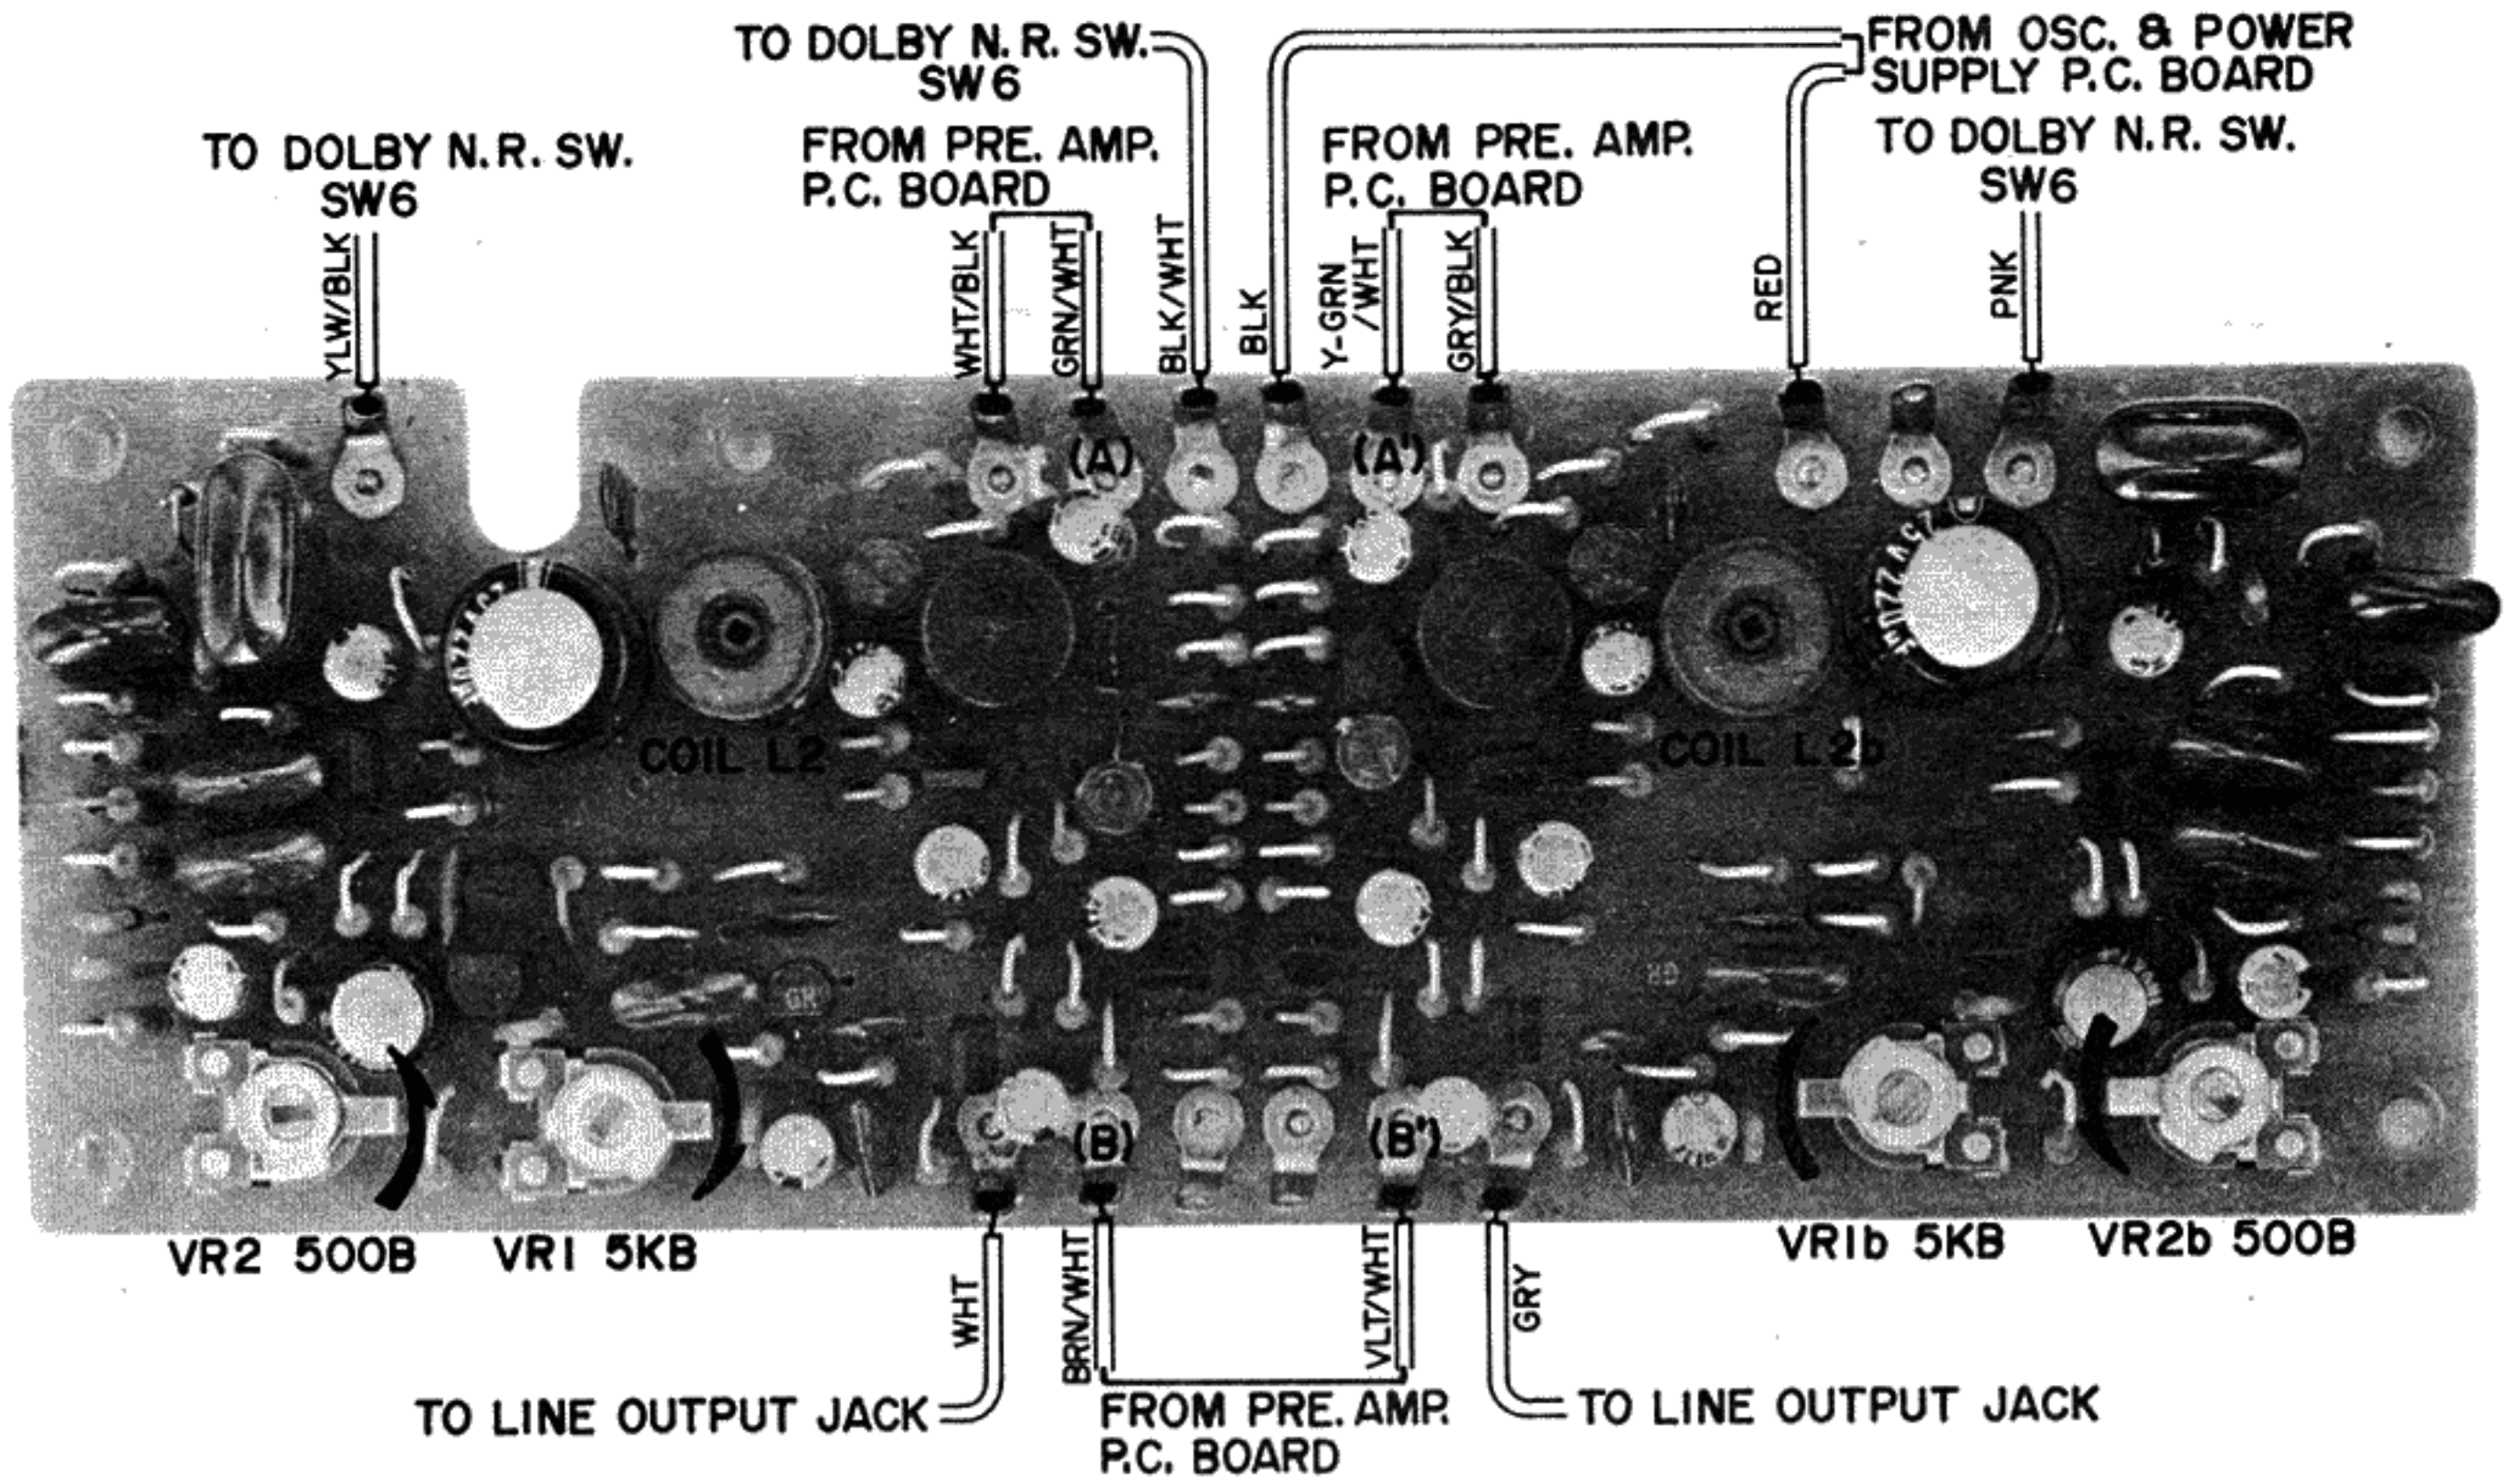

Fig. 18 DOLBY AMP. P.C. BOARD CG-5202 (Face Side)
- b) Turn Dolby N.R. Amp. P.C. Board Dolby Amp. Gain Adjustment Semi-fixed Resistors VR2 500 $\Omega$  (left ch.) VR2b 500 $\Omega$  (right ch.) and FET Gate Bias Adjustment Semi-fixed Resistors VR1 5 k $\Omega$  (left ch.) VR1b 5 k $\Omega$  (right ch.) as far as they will go in the direction of the arrows shown in Fig. 18.
- f) At this condition, further adjust the Attenuator so that the line output level at Point (A) shown in Fig. 18 is  $-28.5$  dB. At this time, confirm that the level at Point (B) shown in Fig. 18 is  $-28.5 + 0.5$  dB.
- g) Turn Dolby Switch SW6 to ON position. At this time, adjust Dolby Amp. Gain Adjustment Semi-fixed Resistors VR2 500 $\Omega$  (left ch.) VR3b 500 $\Omega$  (right ch.) until the voltage at Point (B) shown in Fig. 18 is increased by 10 dB.
- h) Disconnect ground from Test Point "TP" (FET Gate). At this time, adjust FET Gate Bias Adjustment Semi-fixed Resistors VR1 5 k $\Omega$  (left ch.) VR1b 5 k $\Omega$  (right ch.) so that the voltage at Point (B) shown in Fig. 18 is reduced by 2 dB.